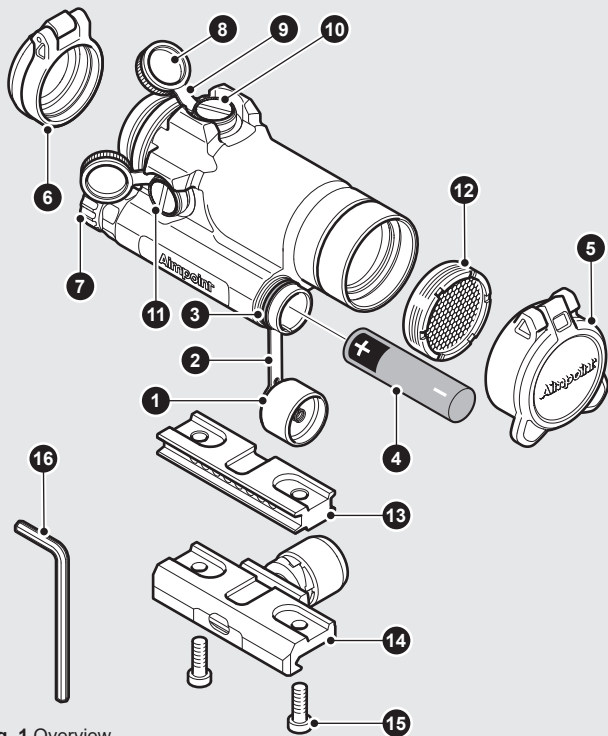

Fig. 1 Overview
- b Insert battery with the positive end (+) toward the sight as shown in Fig. 1.